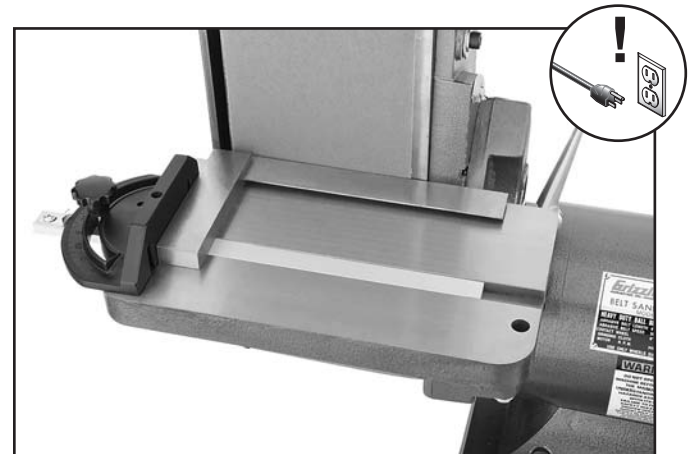

Figure 20. Positioning the miter gauge and square for aligning the table.
- First, check the existing adjustment by sliding the miter gauge into the table T-slot, then positioning a 90° square flat against the miter face and up against the sanding surface, as shown in **Figure 20**.